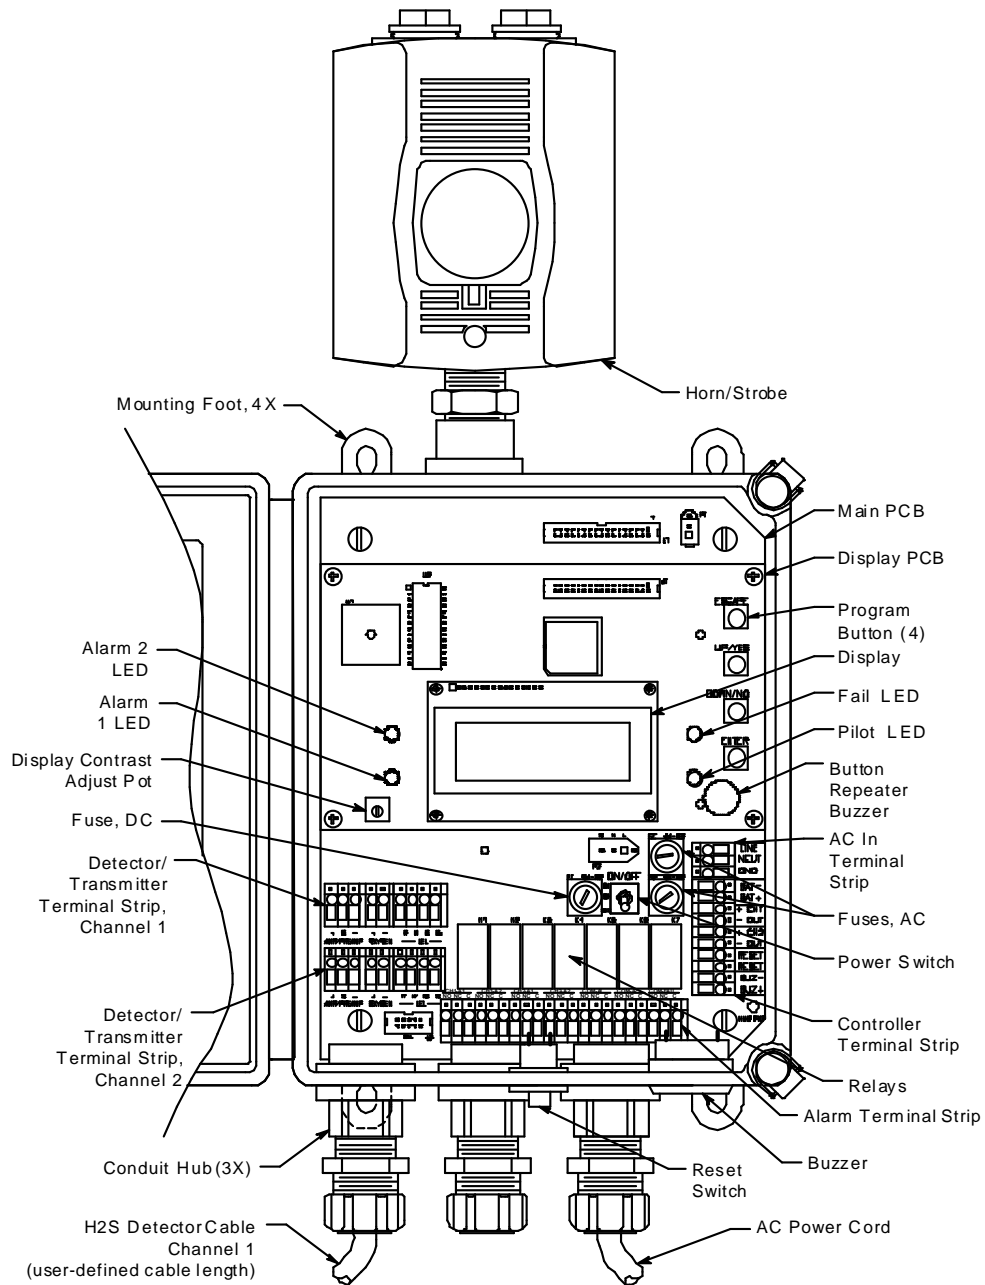

Figure 1. Beacon 200 Component Location
This section describes the internal components of the Beacon 200. See Figure 1 on page 4 for a view of the internal components.
- **Detector/Transmitter Terminal Strips.** Two detector/transmitter terminal strips are located near the bottom left corner of the main circuit board (see Figure 1). These two 9-point terminal strips facilitate wiring connections to the detectors. Only one detector head at a time may be wired per channel. The top terminal strip is for channel 1 and the bottom terminal strip is for channel 2. The H₂S detector is factory wired to the top terminal strip.
- **Alarm Terminal Strip.** The alarm terminal strip is located along the bottom edge of the main circuit board (see Figure 1). This 21-point terminal strips facilitates wiring connections to external alarm devices (horn, strobe, etc.). Terminals are provided for individual channels as well as common alarm relay contacts. The horn/strobe is factory wired to this terminal strip.
- **Controller Terminal Strip.** The 10-point controller terminal strip is near the lower right edge of the main circuit board (see Figure 1). The controller terminal strip facilitates various internal and external wiring connections. Table 3 lists the function of each terminal.
- **AC In Terminal Strip.** The AC In terminal strip is a 3-point terminal strip located above the controller terminal strip (see Figure 1). It facilitates wiring from the AC power source. The 8 foot AC power cord is factory wired to this terminal strip. Table 4 lists the function of each terminal.
- **Channel relays.** The four channel relays are above the alarm terminal strip (see Figure 1). These relays are dedicated to specific channels and alarm levels.
- **Common relays.** The three common relays, alarm 1, alarm 2, and fail, are to the left of the controller terminal strip (see Figure 1). These relays are common for both channels.
The power switch is located above the relays and to the left of the DC fuses (see Figure 1). The power switch turns the incoming AC power source on and off at the Beacon 200. When the switch is up, the power switch is on.